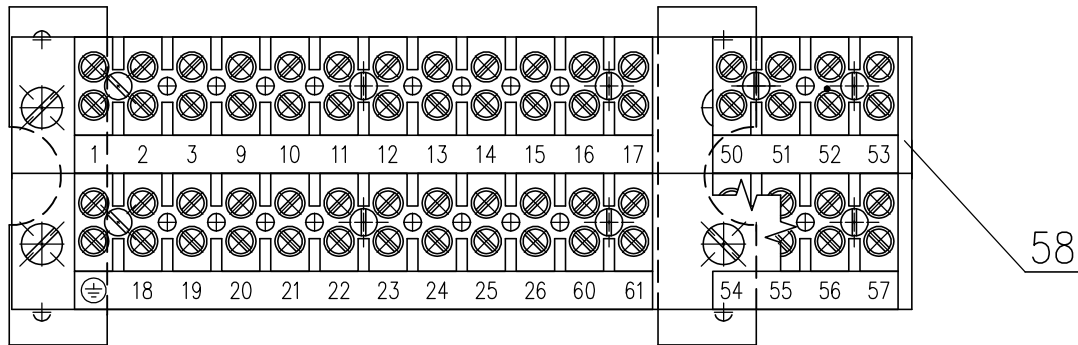

Fig.7
**Torque switch unit (Fig. 7)** consists of the following parts:
Can be made through the terminal board (58) (Fig.7).